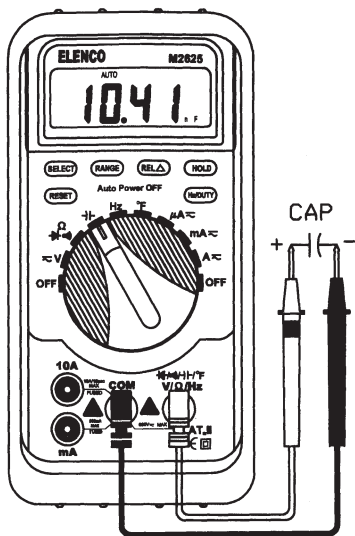

Figure 13. Capacitance Measurement
1. Turn on the meter, then set up the meter as shown in Figure 13.